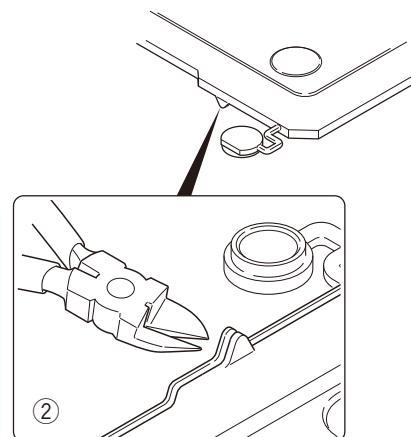

Fig. 9-3
- Note:** If the GPS receiver is installed, cut the base of the convex tab of the top packing with a pair of nippers, or similar tool. (Fig. 9-3 ②)